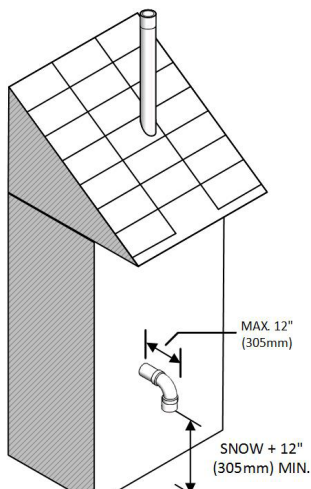

Figure 5a: Rooftop vent terminal configurations
- The air intake pipe may terminate on the side wall of the building as long as the air intake terminal is turned down and the side wall of the building is not exposed to large wind loads i.e.,: prevailing wind (see Figure 5a).